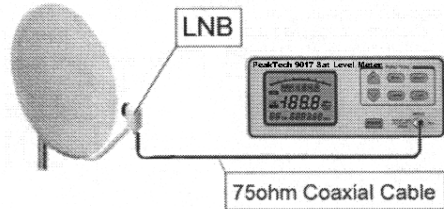

Fig. 3-1 Connecting with LNB
a. Powered by SAT Level Meter: Connect the LNB and INPUT Connector of this meter using a 75ohm coaxial cable. (See figure 3-1). Set the output voltage for proper operation. (13V or 18V)